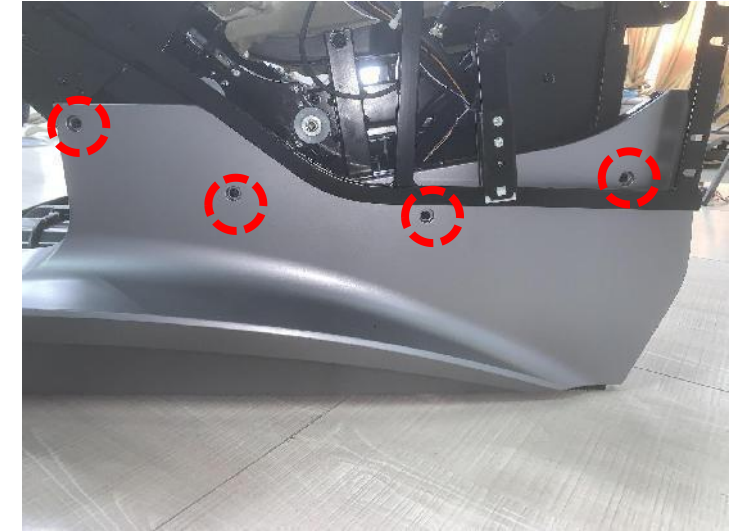

Figure 3
3. Remove the four fixing screws outside the side cover to remove the side cover (Figure 3)